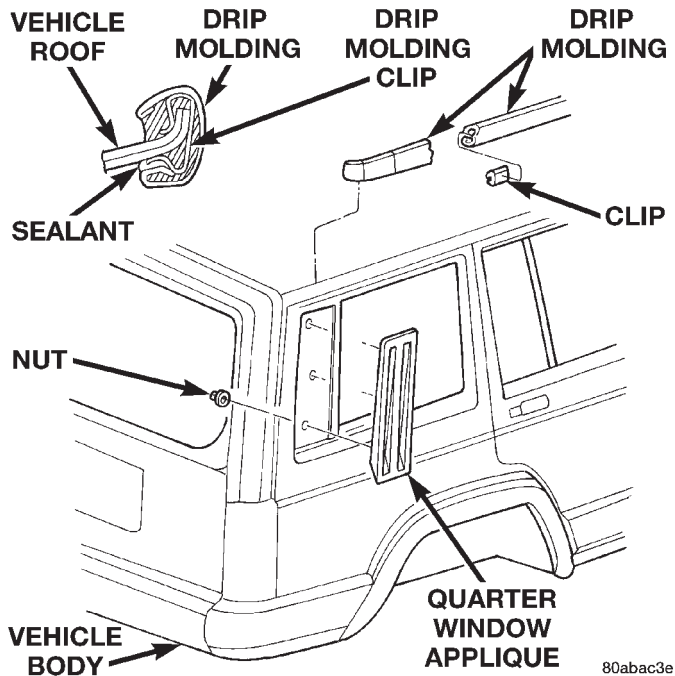

Fig. 63 Quarter Window Applique and Drip Molding
- (1) Remove the liftgate pillar trim.
- (2) Remove nuts from inside vehicle (Fig. 63).
- (3) Using a trim sick or equivalent, carefully pry the applique the from panel.
- (1) Pry the clips from the roof flange.
- (2) Remove the clips and molding from the roof flange (Fig. 63).
- (3) Remove the remaining sealant and clean the roof flange.